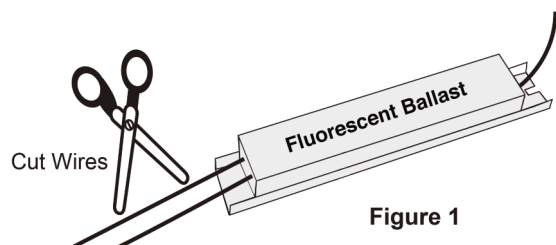

Figure 1
**Step 5:** Cut the line and neutral wires at the ballast, as well as all remaining wires at the ballast (see **Figure 1**).